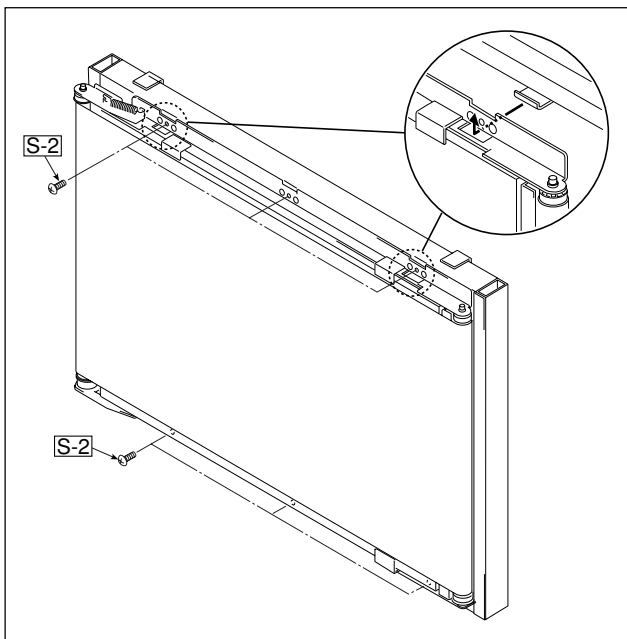

Fig. 14
8) Remove the Sheet Frame Unit. (See Figs. 14 and 15.)
1. Remove the "S-2" screw shown in Fig. 14.
The Sheet Frame Unit is caught on a hook as shown in the portion A of Fig. 14.